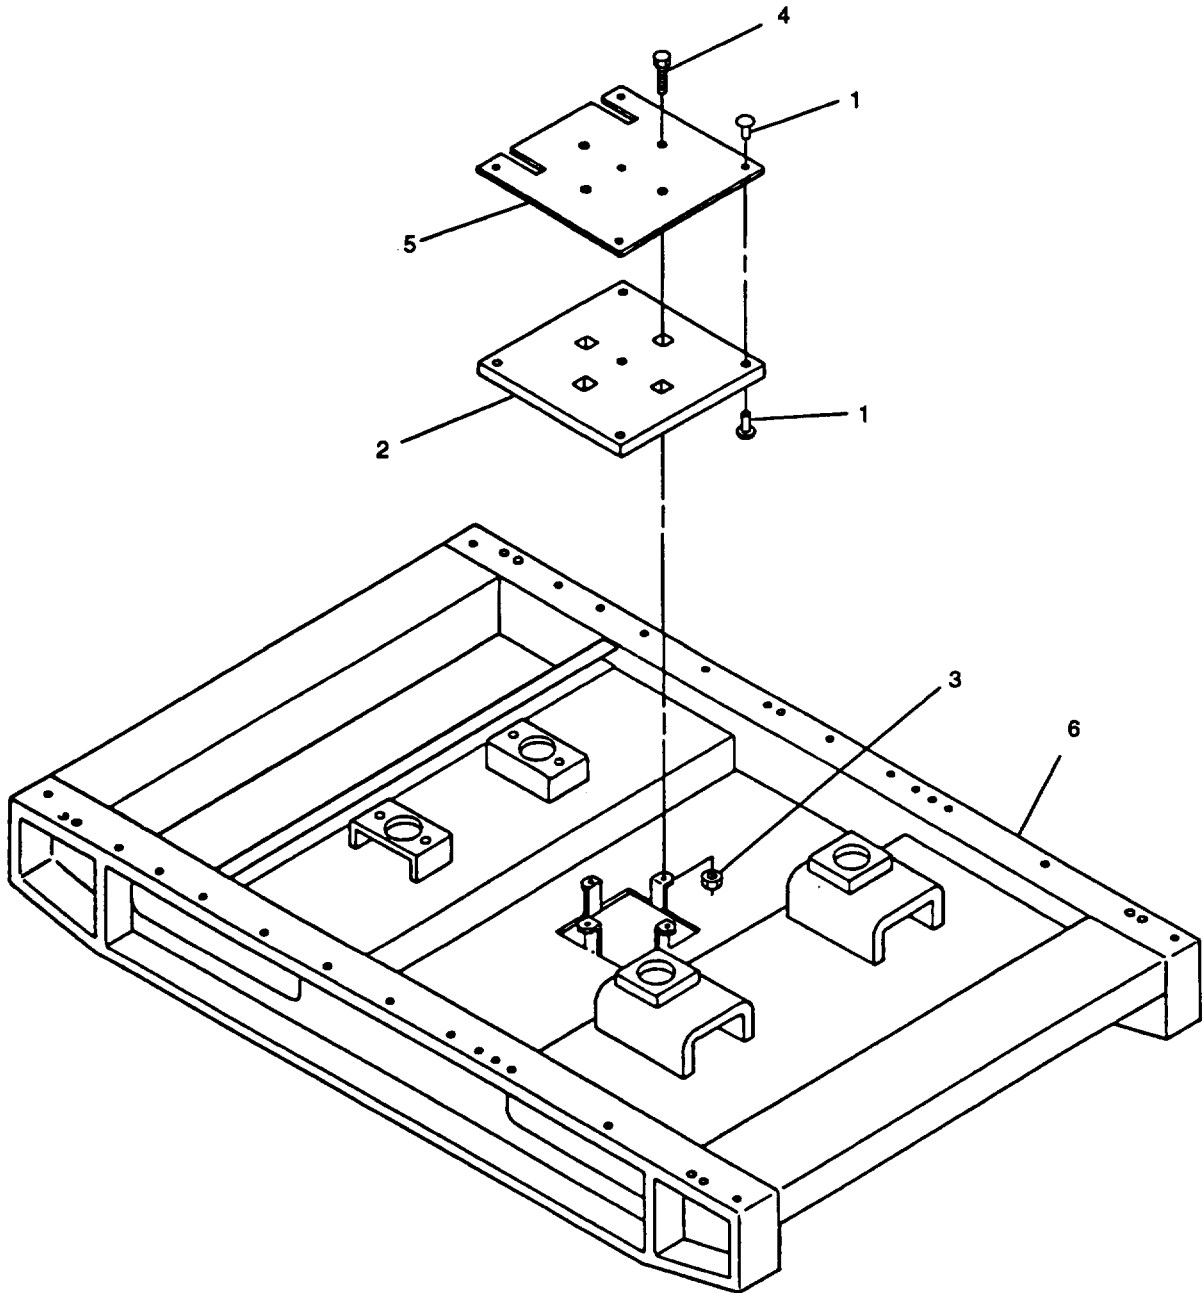

FIGURE 4-14. Skid Base
- f. Remove clip halves (1, FIGURE 4-14) and insulation (2) from plate (5).
- g. Remove nuts (3), bolts (4), and plate (5) from skid base (6).
- a. Install insulation (2, FIGURE 4-14) on plate (5) with clip halves (1).
- b. Install plate (5) to skid base (6) with bolts (4) and nuts (3).